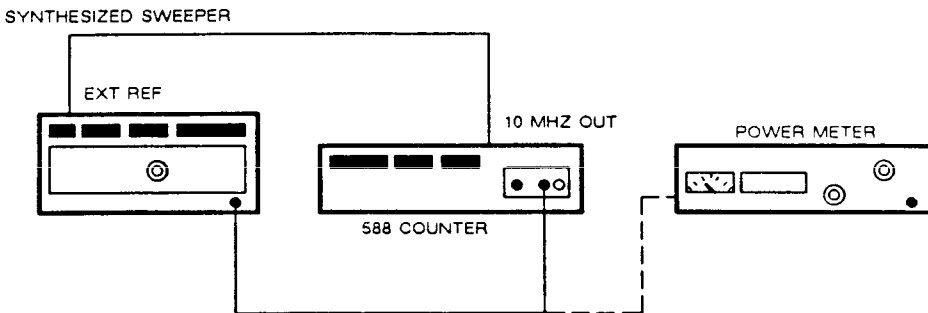

Figure 4-10. Band 2 Maximum Power Level Test Setup
1. Connect equipment as shown in Figure 4-10.